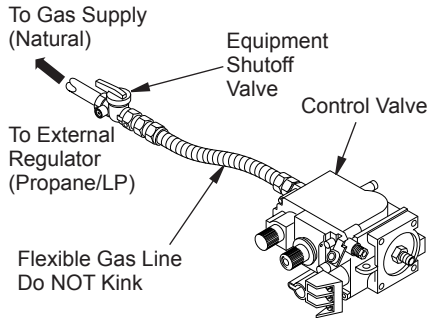

Figure 33 - Connecting Flexible Gas Line to Millivolt Valve
3. Attach flexible gas line from gas supply to control valve (see Figure 33).